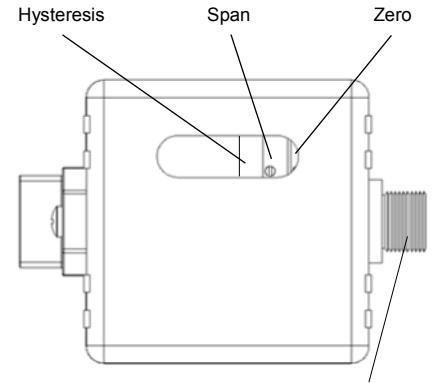

FIGURE 1 (BVQB2X, shown with 3D option)
4. Locate the plastic calibration access cap on top of the BVQBX valve and completely remove it. Located underneath are two adjustment trim pots, Zero "Z" and Span "S". See figure 1 for pots location.